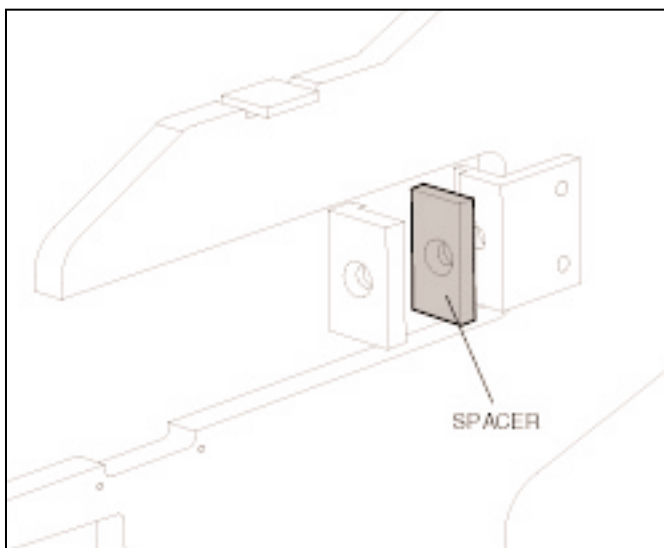

Figure 19.14 MOVE MOLD LOCK ARM BACK.
- 19.2.5 For 18.047" M.B.C. molds, remove mold throat liner and reinstall with 5" spacer #448809. Use 7 1/2" flat head screw #088512. For 20.047" M.B.C. molds, remove mold throat liner and reinstall with 4" spacer #448808. use 6 1/2" flat head screw #088513. See figure 19.14.